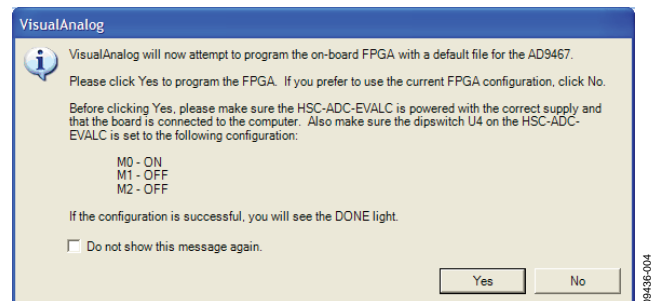

Figure 4. VisualAnalog, New Canvas Message Box
2. After the template is selected, a message box opens, asking if the default configuration can be used to program the FPGA (see Figure 4). Click **Yes**, and the window closes.